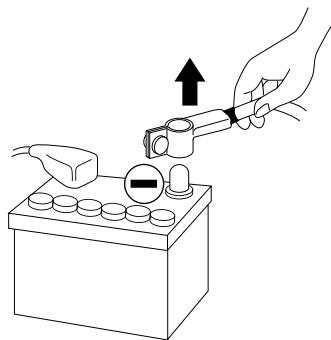

fig. 1
- **Before beginning installation, disconnect the negative terminal of the battery to avoid any risk of injury, fire or material damage. (fig. 1)**
- 2 - Disconnect the negative terminal of the battery before beginning the installation. (*fig.1*)
Before beginning the connection phase, remove the negative (-) terminal of the battery of the vehicle. (*fig.1*)